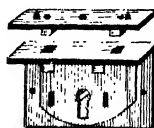

Fig. 425.
Figs. 425 and 426.—Box or Chest Locks.
**Fitting Box or Chest Locks.**—The box or chest lock (Figs. 425 and 426) is fixed